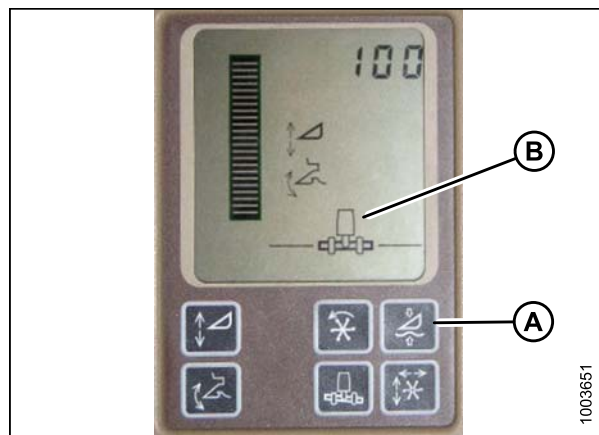

Figure 6.33: John Deere Combine Display
Do **NOT** use the active header float function (A) in combination with the MacDon Auto Header Height Control (AHHC)—the two systems will counteract one another. The header symbol (B) on the display should NOT have a wavy line under it and should appear exactly as shown on the Active Header Control Display in Figure 6.33: *John Deere Combine Display*, page 86.